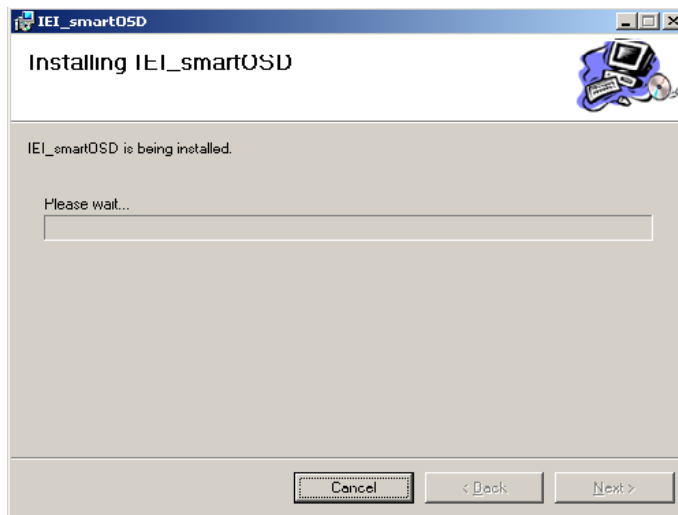

Figure C-4: smartOSD Installation Progress
Step 10: The program starts to install and the progress bar shown in .Figure C-4 appears.